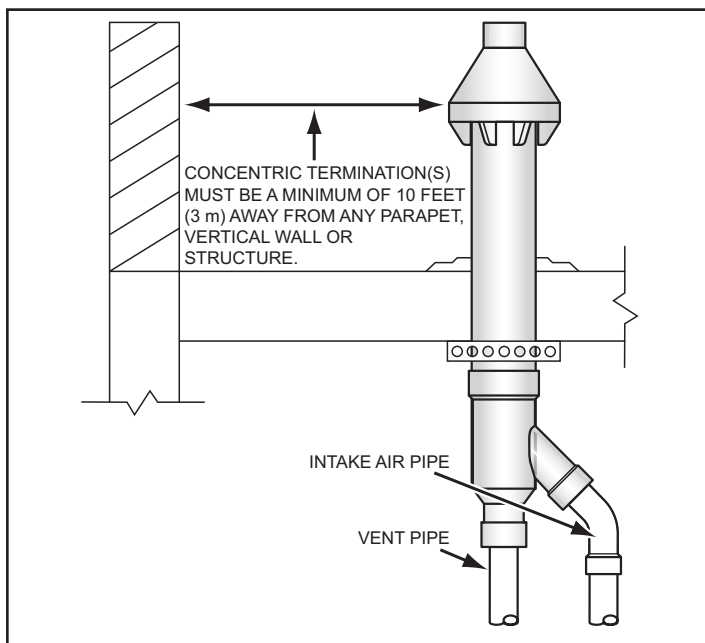
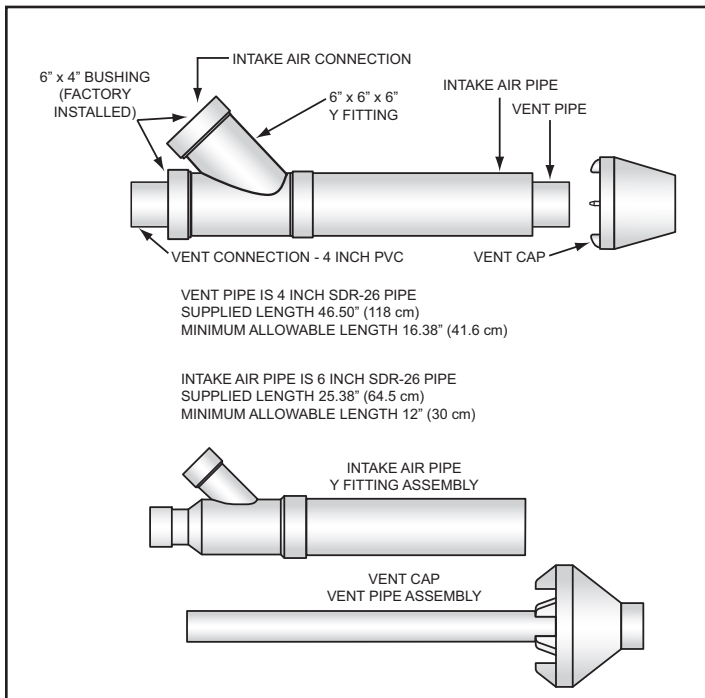
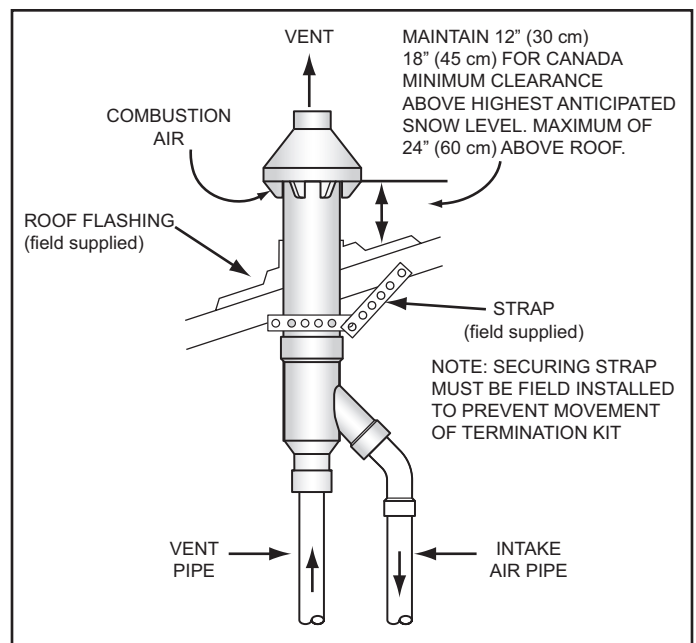
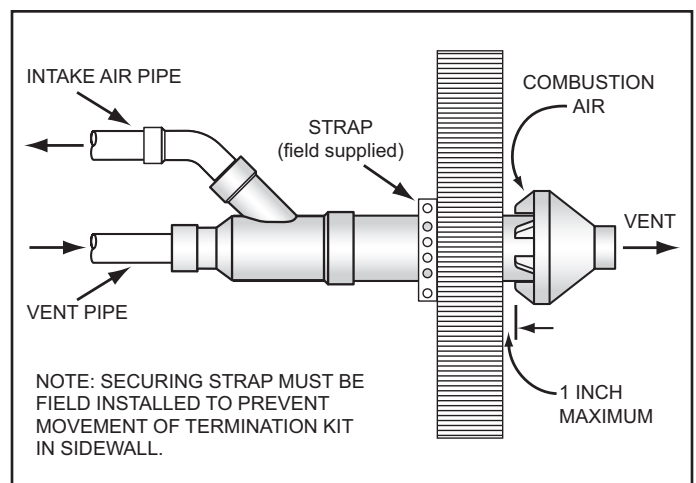

Figure 24. Six-inch Concentric Termination - Flat Roof Clearance
Figure 25. Six-Inch Concentric Termination Kit
Figure 26. Six-Inch Concentric Termination - Vertical Installation
Figure 27. Six-Inch Concentric Termination - Sidewall Installation
- When installing a concentric termination vertically through the roof; ensure that all exterior vertical clearance requirements for the concentric termination, shown in **Figure 24** and **Figure 26** (page 34), are being maintained. These clearances and those cited by local and national codes must be maintained.
- When installing a concentric termination vertically through a flat roof, the termination's vent cap must be a minimum of 10 feet (3 m) away from any parapet, vertical wall or structure as shown in **Figure 24**.
- See **Figure 25** for the minimum lengths allowed for the 6 inch concentric termination.
1. Assemble and install the 6 inch concentric termination. See **Figure 25**, **Figure 26**, and **Figure 27** for these instructions: